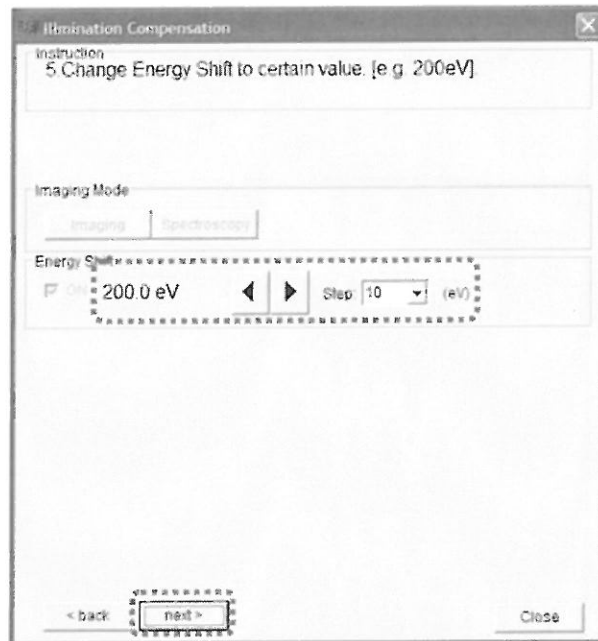

Fig. 5.53 Illumination Compensation - 5. Change Energy Shift to certain value [e.g. 200kV]
5. Follow "Instruction – 5. Change Energy Shift to certain value [e.g. 200eV]" and use the "◀" "▶" buttons to change the Energy Shift value to an appropriate value (such as 200 eV) (Fig. 5.53). After changing the Energy Shift amount is complete, press the **next** button to proceed.